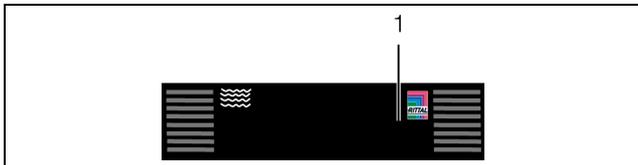
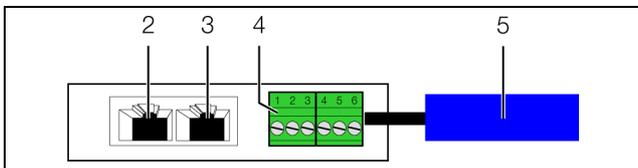

Fig. 12: Front of the airflow sensor
Fig. 13: Rear of the airflow sensor
A multi-LED for the status display is integrated into the front of the airflow sensor (fig. 12, item 1). Further LEDs are located at the rear on the CAN bus connection (fig. 13, item 2 and item 3).